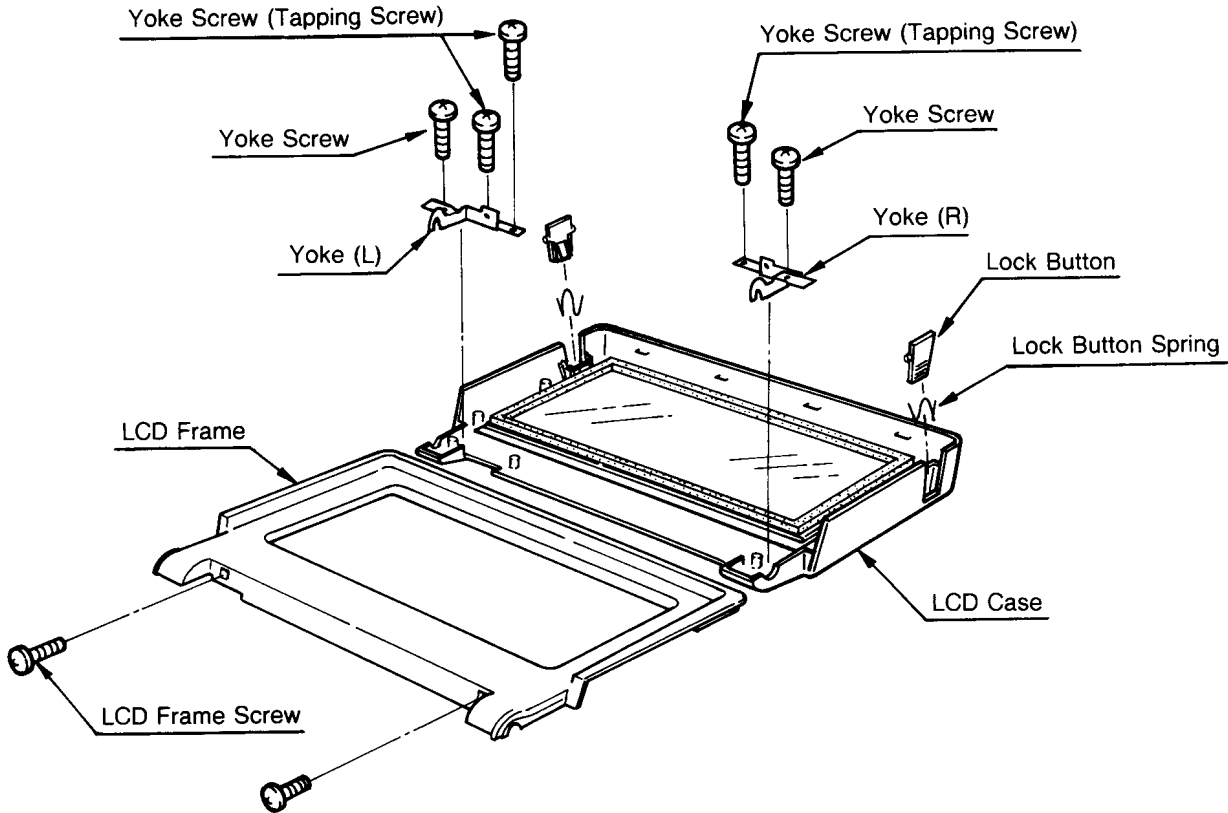

**Figure 2-7. Top Cover Removal**
(2) Remove the Top Cover (LCD) from the Top Case. (Figure 2-7)